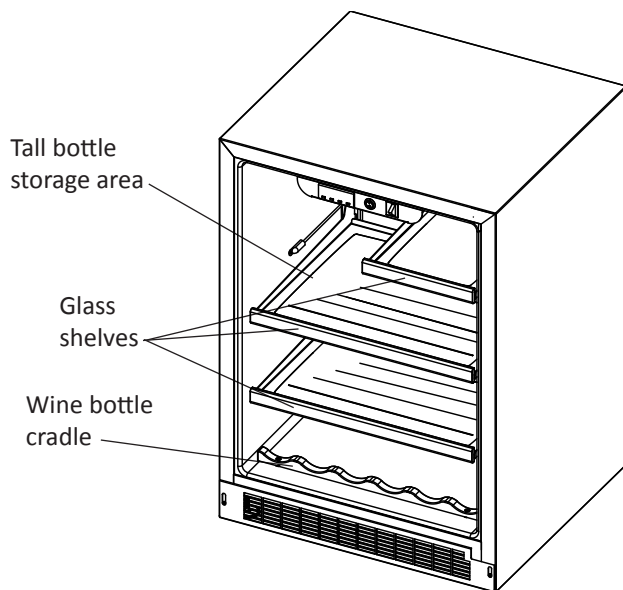

Figure 15
The basic cabinet comes with 3 glass shelves which can be positioned anywhere in the cabinet. The glass half shelf allows storage of tall bottles or opened wine bottles on the shelf below. (See Figure 15). The fixed wooden bottle cradle at the bottom of the cabinet will hold 6 bottles of wine. The wooden, bottom bottle cradle may be removed for storing "jug" wines. Just remove the two (2) screws that secure the cradle to the cabinet floor.